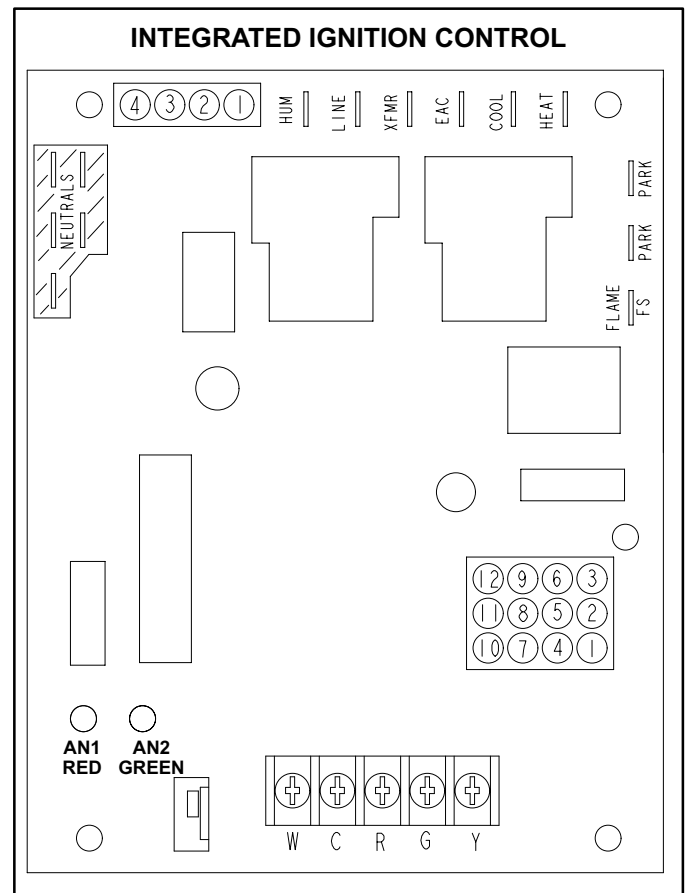
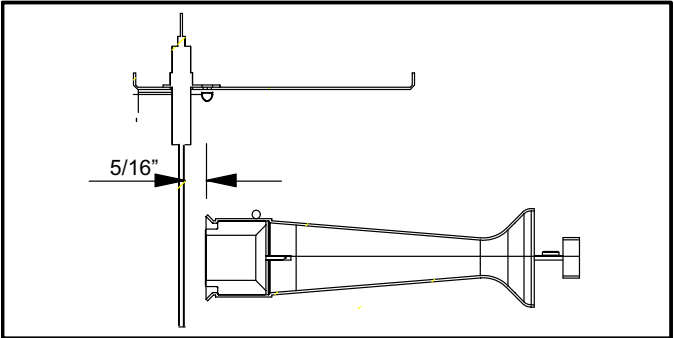
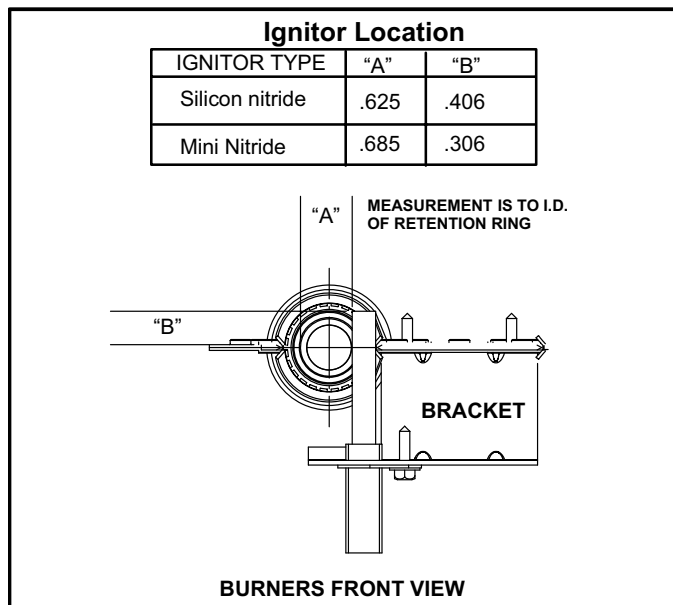

FIGURE 8
FIGURE 10
FIGURE 11
The hot surface ignition control system consisting of an integrated control board (figure 8 with control terminal designations in table 7), sensor (figure 10) and ignitor (figure 11). The ignition control board and ignitor work in combination to ensure furnace ignition and ignitor durability. The ignition control, controls all major furnace operations. The ignition control also features two LED lights (AN1 red and AN2 green) for troubleshooting and two accessory terminals rated at (1) one amp. The ignition control also features a (3) amp fuse for overcurrent protection. Tables 5 and 6 show jack plug terminal designations. See table 4 for troubleshooting diagnostic codes. The mini-nitride ignitor is made from a non-porous, high strength proprietary ceramic material that provides long life and trouble free maintenance. The ignition control continuously monitors line voltage and maintains the ignitor power at a consistent level to provide proper lighting and maximum ignitor life.
5.Flame Sensor (Figure 10)
A flame sensor is located on the left side of the burner support. See figure 10. The sensor is mounted on the flame rollout plate and the tip protrudes into the flame envelope of the left-most burner. The sensor can be removed for service without removing any part of the burners. During operation, flame is sensed by current passed through the flame and sensing electrode. The ignition control allows the gas valve to remain open as long as flame signal is sensed.
6. Ignitor (Figure 11)